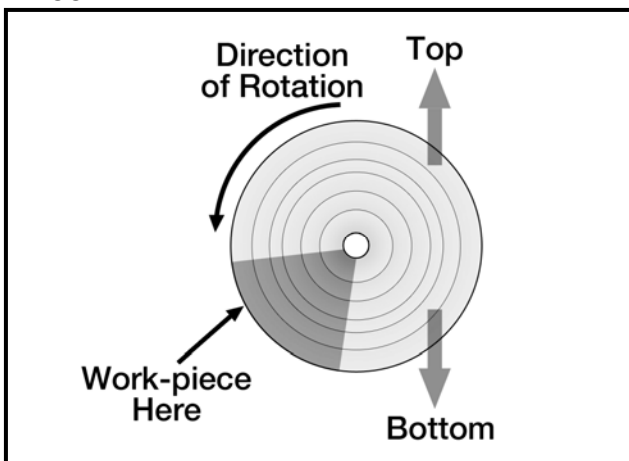

Figure-5 Area on the buffing wheel where the work-piece should contact
4. When buffing, make sure to use the area on the wheel shown in figure-5. If the work-piece comes in contact with the buffing wheel outside the indicated area, the work-piece may flip out of your hands.